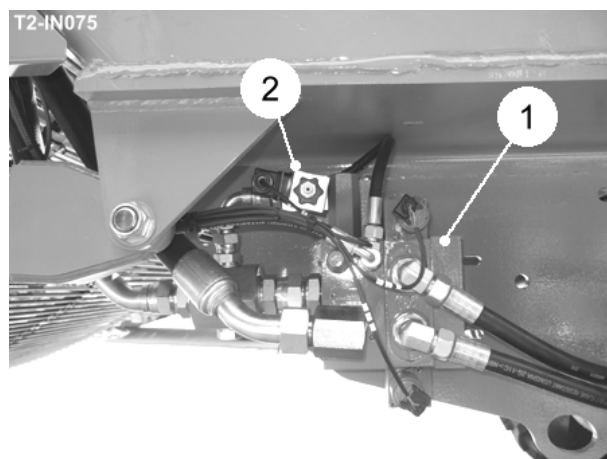

Fig 22
The axle drive can be set to forward , neutral or reverse  from the yellow rocker switch on the slave box or from the service terminal. When forward or reverse is selected, the directional control valve (item 1, fig 22) demands oil flow from the pump to provide the necessary flow required to match the harvester wheel speed to the tractor speed. When the flow matches, the pressure compensator within the pump maintains a constant pressure in the hydraulic system which is set on the external pressure control valve (item 2, fig 22) from the service terminal. This valve allows a low operating pressure to be set which is adjustable to give the required drive assistance for normal harvesting. Forward speed can be matched to the tractor by using the speed adjust on the service terminal. When the high pressure button  is pressed, the system operating pressure is increased to the setting of the main compensator within the pump.